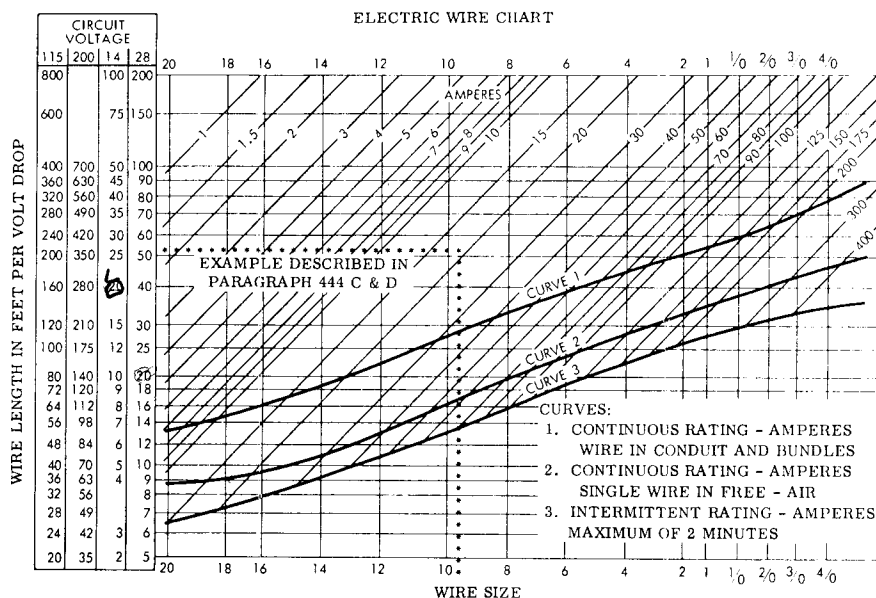

Figure 11.7. — Electric wire chart.
(2) The size must be sufficient to prevent overheating of the wire while carrying the required current.
b. To simplify these determinations an electric wire chart (figure 11.7) may be used. In order to use this chart properly for the selection of wire we must know:
(1) the length in feet of the actual wire "run" from the bus to the equipment;
(2) the number of amperes of current it must carry;
(3) the amount of voltage drop permitted (see tabulation, paragraph 442a); and
(4) whether the current carried will be intermittent (maximum 2 minutes) or continuous, and if continuous, whether it is a single wire in free air, in a conduit, or in a bundle.
c. Assume that we wish to install a 50-foot length of wire from the bus to the equipment in a 28-volt system. By referring to the "allowable voltage drop table" (paragraph 442a), we find that we are permitted a 1-volt drop for continuous operation. Now referring to the "electrical wire chart" (figure 11.7), we find along the left side values numbered 5 to 200 showing the number of feet a wire may be run while carrying a given current, with a 1-volt loss or drop. Place a pointer on the horizontal line shown opposite the number 50.
d. Assuming that the current required by the equipment is 20 amperes, place another pointer at the top of the table on the diagonal line numbered 20 amperes. Now follow this diagonal line downward until it intersects the horizontal line number 50. From this point, drop straight downward to the bottom of the chart and we find that a wire size between a No. 8 and a No. 10 is required to prevent a greater drop than 1 volt. Since we are between these two numbers, select the larger size, No. 8. This is the smallest size which should be used to meet requirement a (1).
e. For requirement a (2) : (1) Disregard the length of the wire, the numbers along the left side of the chart, and the horizontal lines for this determination; (2) Assume that the wire is to be a single wire in free air carrying continuous current; (3) Place a pointer at the top of the table on the diagonal line which is numbered 20 amperes; (4) Follow this line until the pointer intersects the diagonal line marked "curve 2;" and (5) Drop pointer straight downward to the bottom of the chart and we are between the number 16 and 18. As the results are again between sizes, select the larger No. 16 wire. This is the smallest size wire acceptable to carrying 20-ampere current in a single wire in free air without overheating.